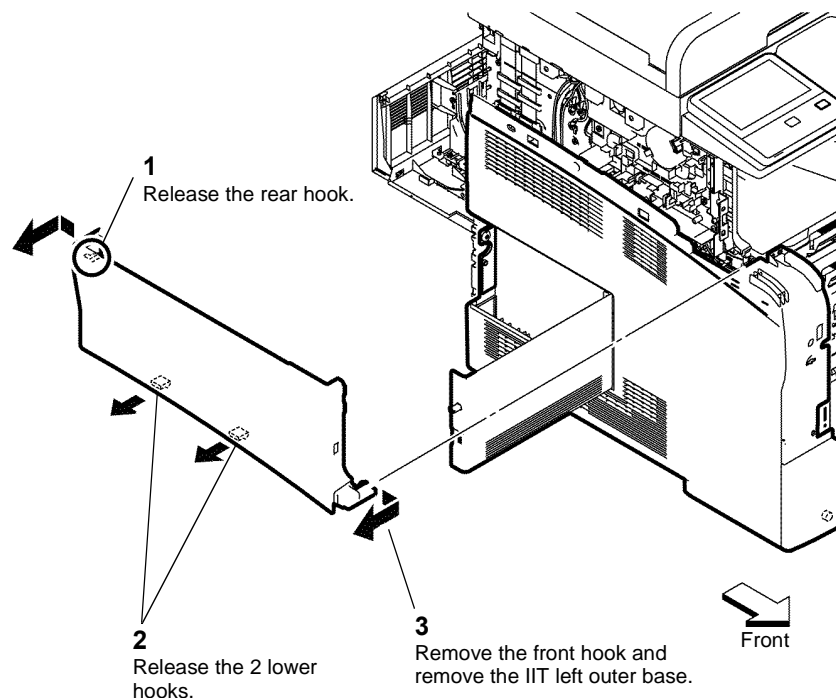

Figure 1 IIT Left outer base C405
3. Remove the IIT left outer base C405, Figure 1.